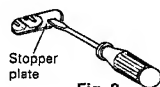

Fig. 2
2. To reset the selector, slide the stopper plate to the opposite side with a screwdriver or other pointed tool. See Figure 2.